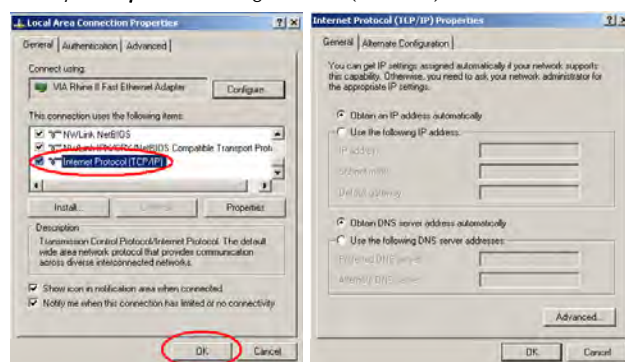

Figure 3.b - Network settings
6. Click “Properties”: the window shown in Figure 3.b (left) is displayed
7. Double click “Internet Protocol (TCP/IP)”: the window shown in Figure 3.b (right) is displayed.
8. Click "Use the following IP address" (Figure 3.c);